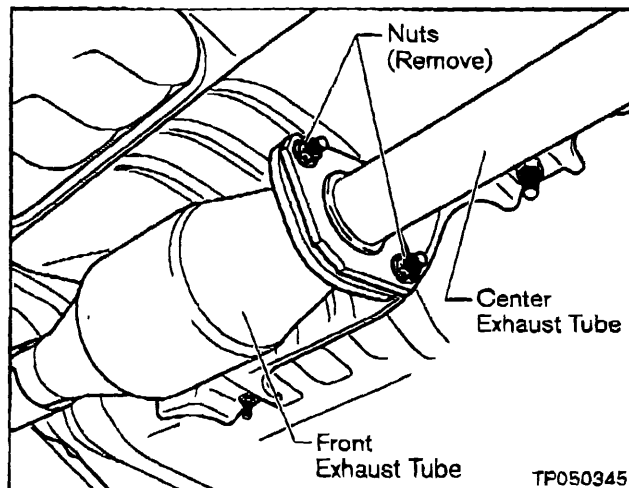

Figure 4a
- a. Remove two Nuts that secure the Center Exhaust Tube to the Front Exhaust Tube (see Figure 4a).